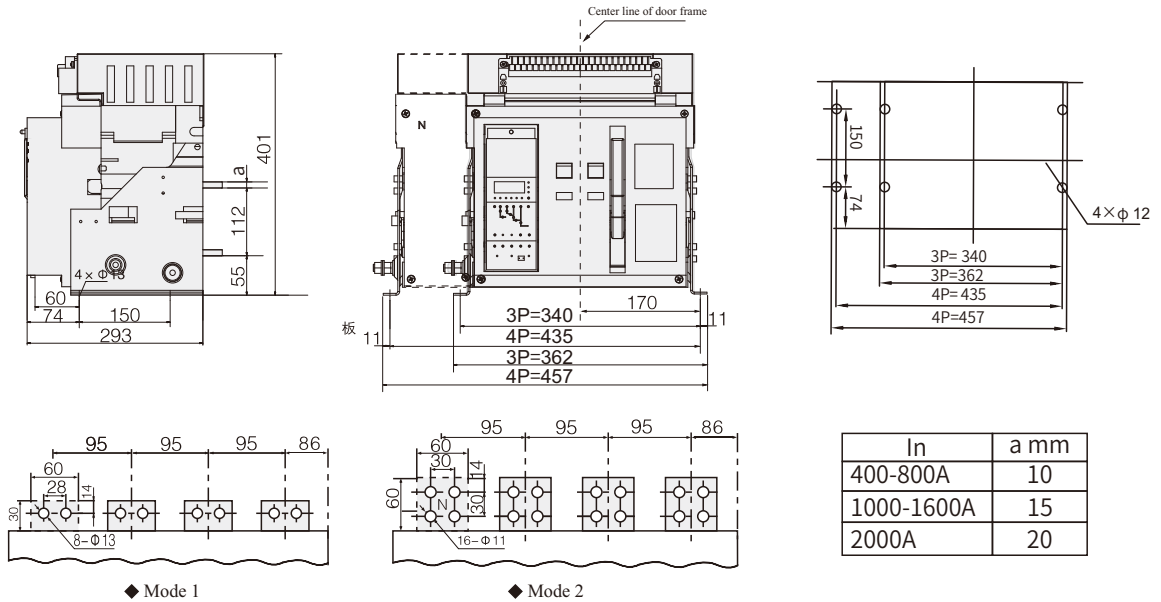

Figure 15 Fixed Circuit-Breaker Installation and Overall Dimensions (In?I equals to 2000A three or four-pole)
6.1 YCW1-2000A Fixed Circuit-Breaker Installation and Overall Dimensions are shown in Figure 15.